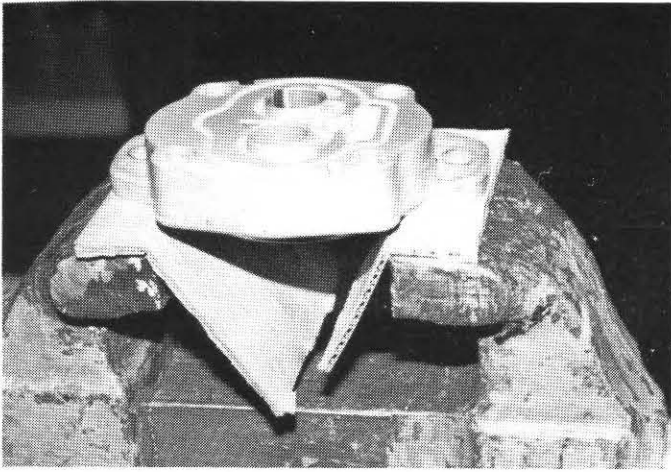

FIG. 3
6. Place flange in machinist vise. Use cardboard between jaws of vise and flange. (Fig. 3)